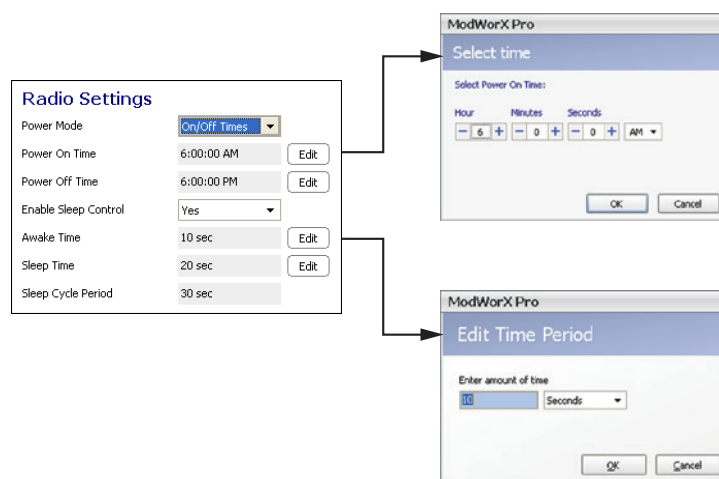

Figure 3.12
- a. Click the **Edit** button next to the Power On Time field and enter the time of day when power is to be supplied to the radio, using the “plus” and “minus” buttons shown in the Select time dialog in Figure 3.12, page 39. Click **OK**.
- a. Click the **Edit** button next to the Awake Time field and enter the period of time that the radio is to be awake during each sleep cycle period using the Edit Time Period dialog shown in Figure 3.12, page 39. Click **OK**.